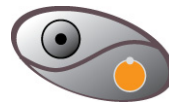

Figure 3-16: System is in Standby
17. When the treatment is complete, select the Standby button to place the system in Standby. The Standby/Ready button turns yellow (see **Figure 3-16**).